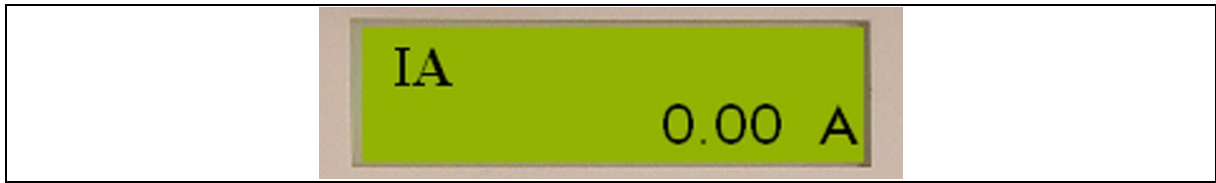

FIGURE 3 – LCD DISPLAY
- 7-Keypad comprising 4 arrow keys (↶, ↷, ↵, ↴), an ENTER key (↵), a CLEAR key (C), and a READ key (R)
- The relay serial number and the relay voltage rating information (see figure 3 in this chapter)